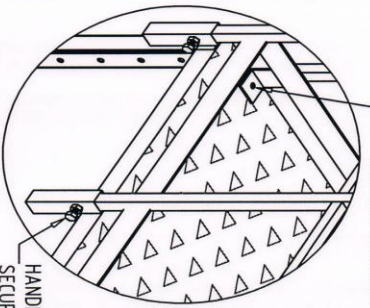

FIGURE 2
- 1) The staircase can be hung from the left or right of the landing depending on site requirements. The diagrams overleaf illustrate a right hung installation. The position of items 1 and 6 is reversed when left hung.
- 2) Position Landing Handrail Assembly (Item 6) into preferred positioning holes on Landing Platform (Item 5), making sure the kick plate is on the inside of the landing (see Figure 2). Secure using the designated fixings.
- 3) Position Landing Handrail Assembly (Item 7) into locating sockets on Landing Platform (Item 5), making sure the kick plate is on the inside of the landing (see Figure 2). Secure by tightening the pre-installed bolts.